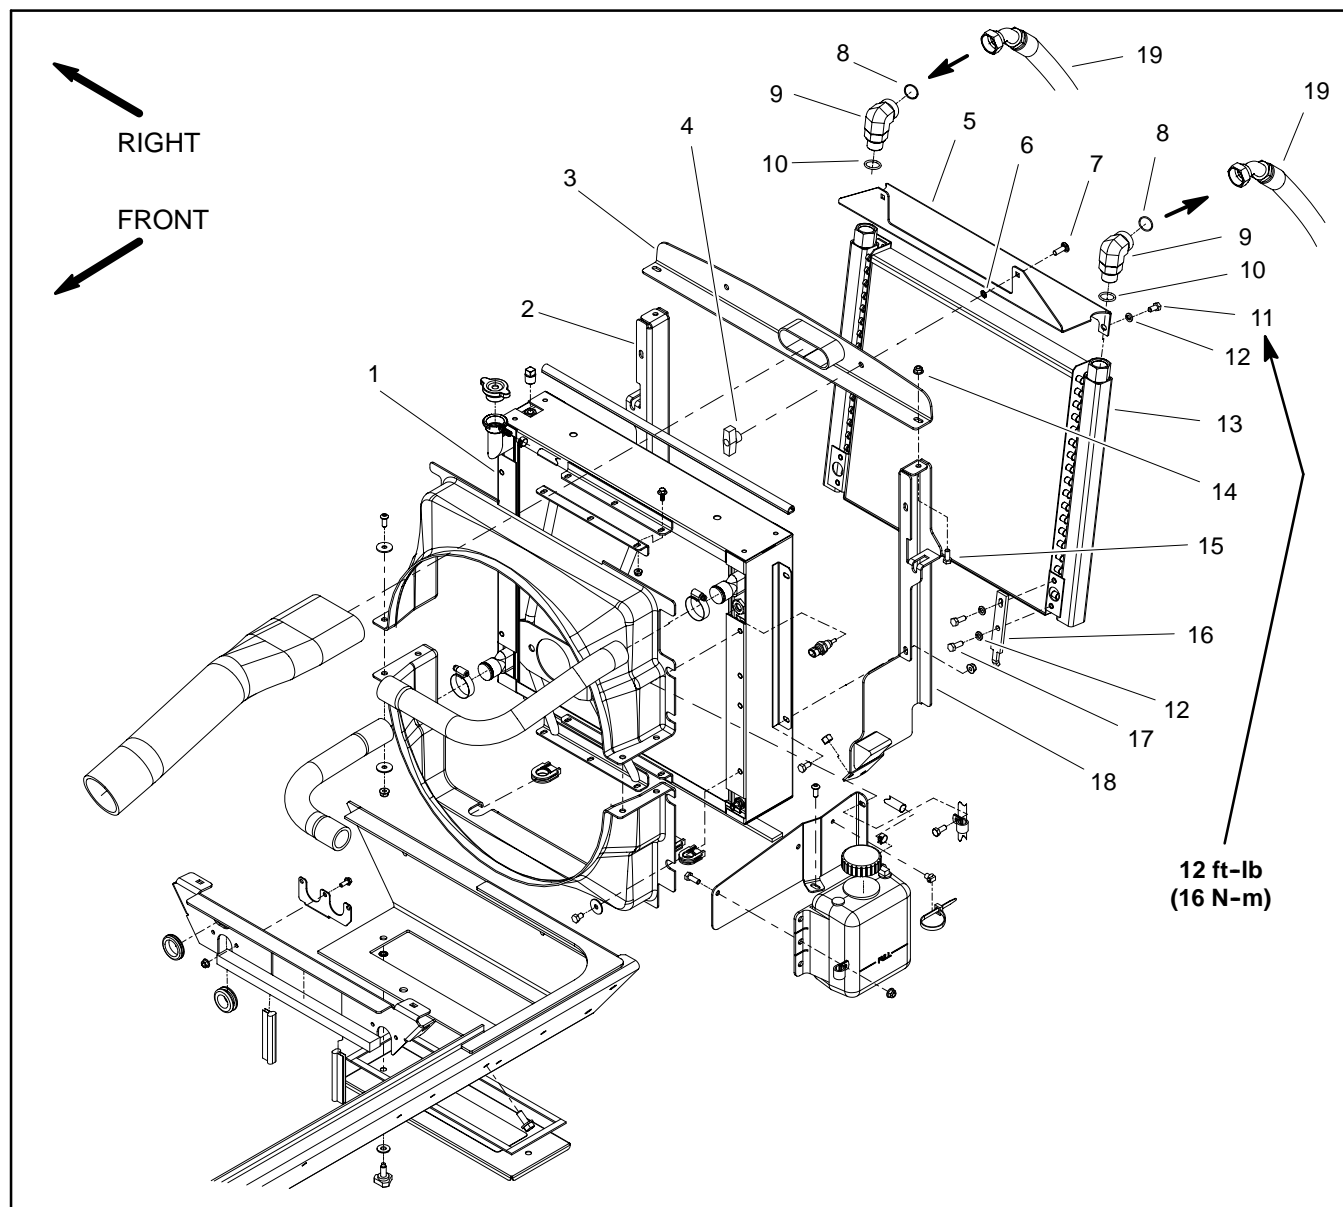

Figure 60
## Removal (Fig. 60)
3. Remove oil cooler using Figure 60 as a guide.
### Installation (Fig. 60)
1. Install oil cooler using Figure 60 as a guide.